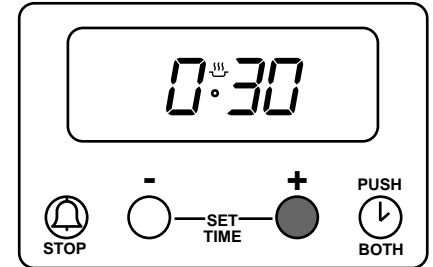

Fig. 6.7
Release button (1) and press and hold button (2). The display will count up in one minute intervals until the interval to be timed is reached, e.g. 30 minutes, see Fig. 6.7. If necessary, press and hold button (1) to achieve the correct time interval.